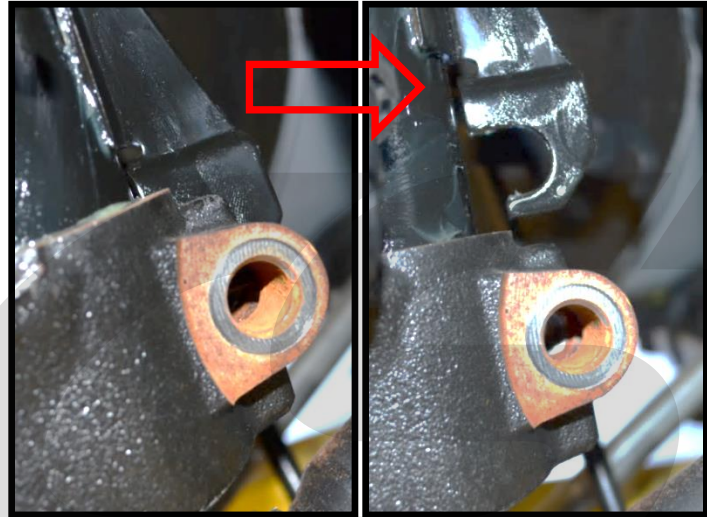

Figure 2f
- g) Using the 2lb mallet (or similar) carefully, but forcefully pound the knuckle until it comes free from the shock upright. You will need to be patient as the knuckle will need to slide down roughly 2-3" before it releases from the shock. You can see your progress by the rear alignment tab **Figure 2f**.